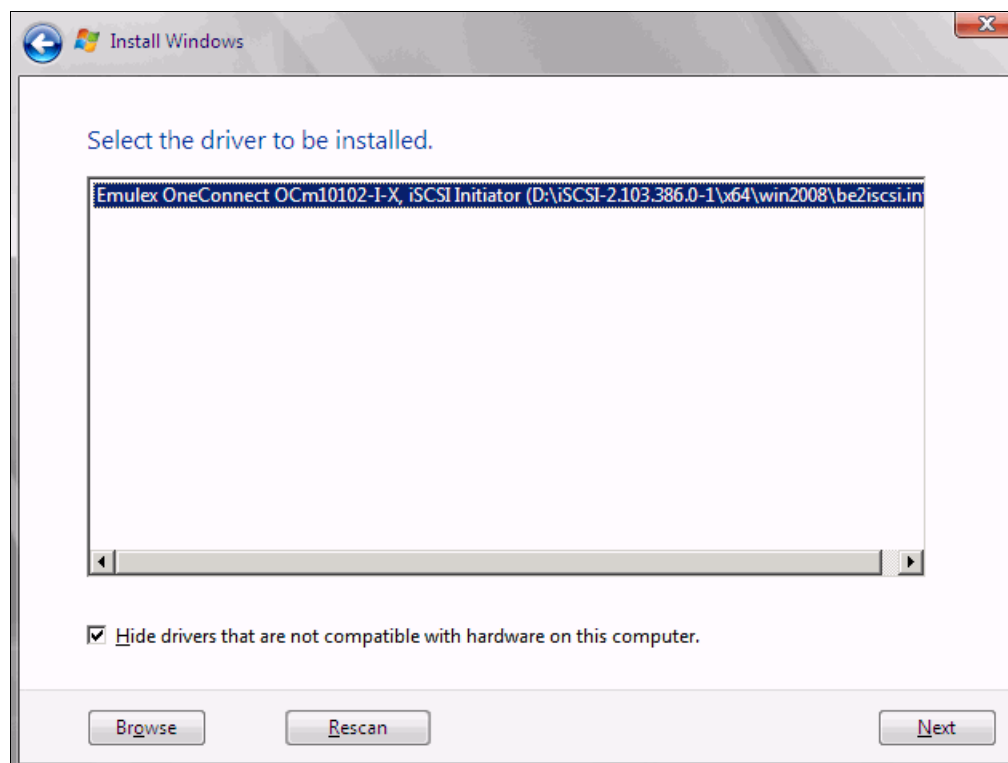

Figure 9-97 Selecting the storage driver
14. In the “Select the driver to be installed” panel (Figure 9-97), select the driver, and click **Next**.